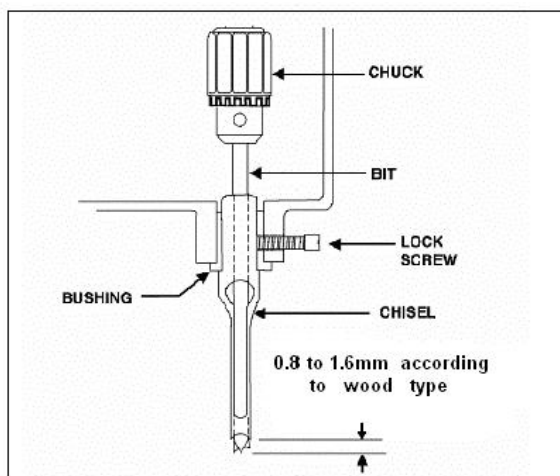

Fig. 12
1. Loosen lock screw, shown in Figure 12.